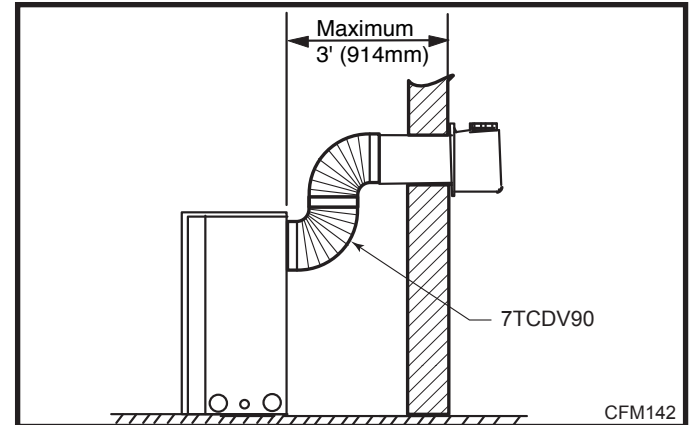
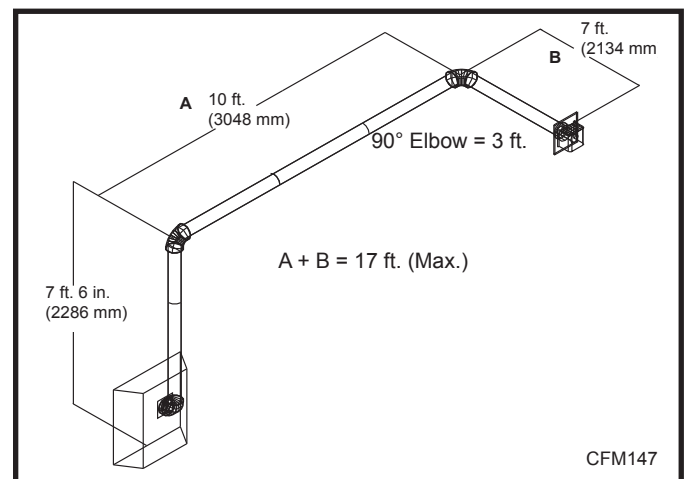

Fig. 27 Maximum horizontal vent run.
Fig. 28 Maximum vent run with elbows.
- If a 90° elbow is used in the horizontal vent run (level height maintained) the maximum horizontal vent length is reduced by 36" (914 mm). (Fig. 27) This does not apply if the 90° elbows are used to increase or redirect a vertical rise. (Fig. 28)
rise is 20' (6 m) and if a 90° elbow is required in the horizontal vent it must be reduced to 17' (5.2 m). In Figure 28 Dimension A plus B must not be greater than 17' (5.2 m).